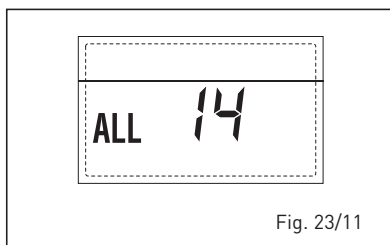

Fig. 23/11
– ANOMALÍA DEL VENTILADOR “ALL 15” (fig. 23/12)